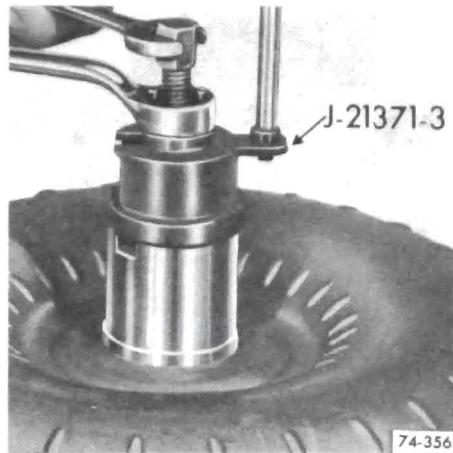

Figure 76-744
- b. Install Tool J-21371-3 and tighten hex nut. See Figure 76-744.